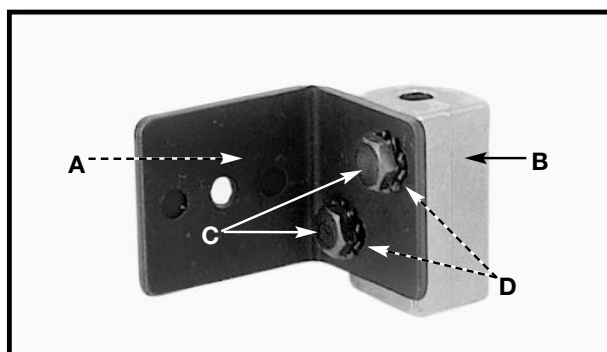

Fig. 17
2. Fasten the splitter support bracket (A) Fig. 17 to the splitter bracket (B) using two 1/4-20x1/2 inch hex head screws (C) and two 1/4 inch external tooth lockwashers (D).